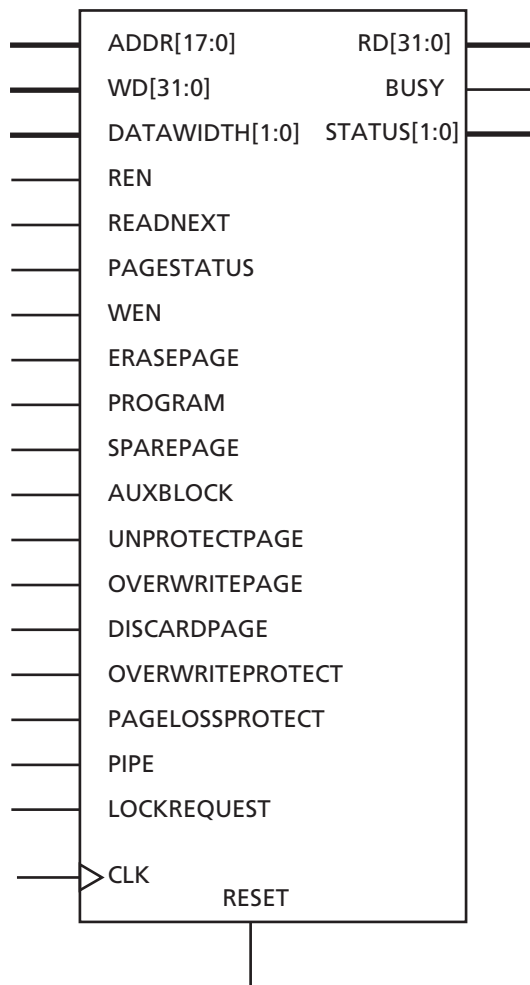

Figure 2-31 • Flash Memory Block
Fusion is the first FPGA that offers a flash memory block (FB). Each FB block stores 2 Mbits of data. The flash memory block macro is illustrated in Figure 2-31. The port pin name and descriptions are detailed on Table 2-18 on page 2-38. All flash memory block signals are active high, except for CLK and active low RESET. All flash memory operations are synchronous to the rising edge of CLK.